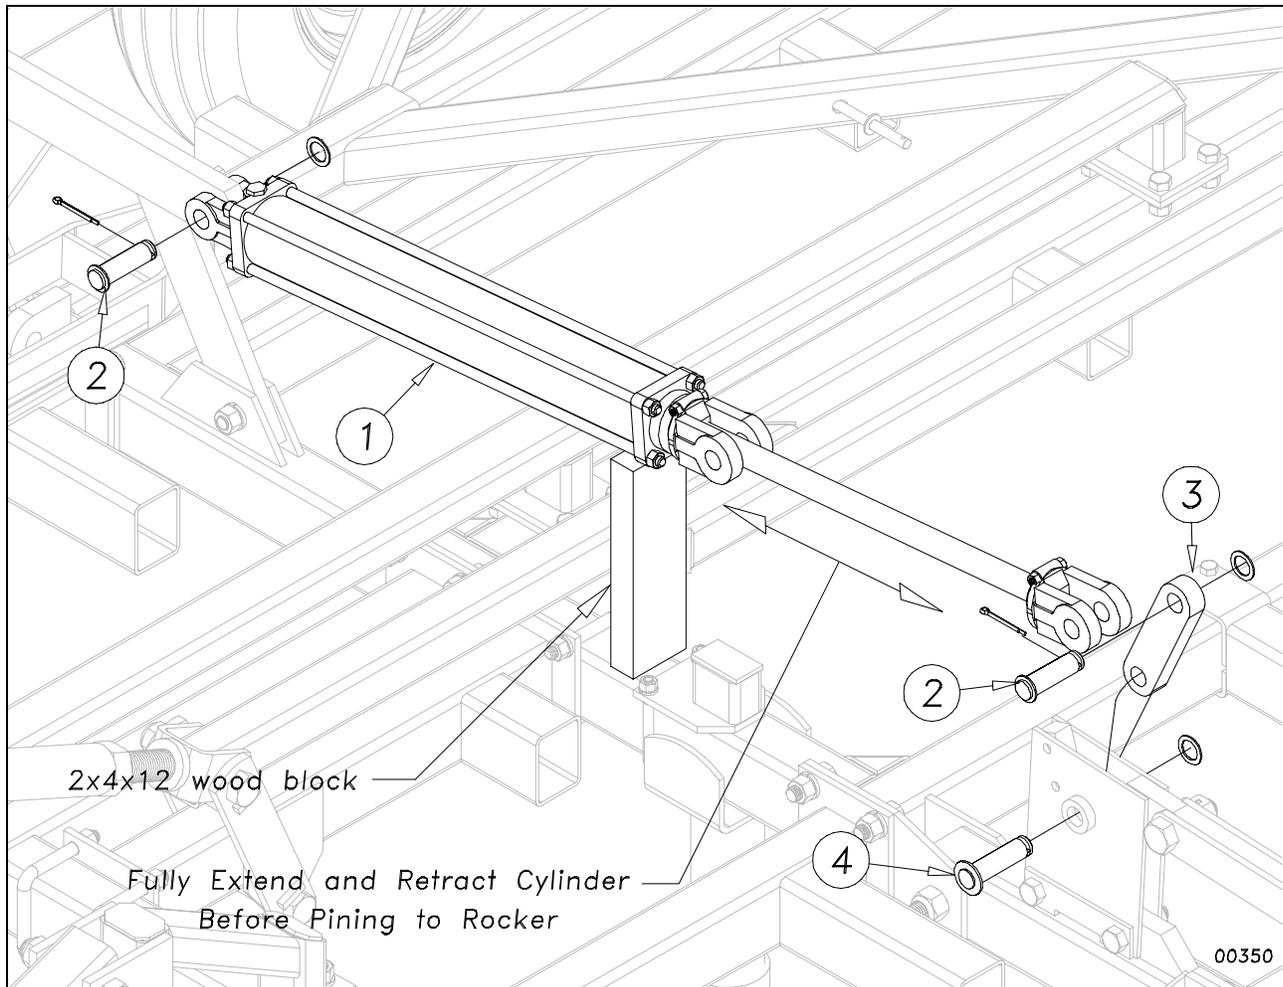

Figure 8
Connect the center fold cylinders (1) to the center fold bracket as shown in Figure 8. Use the 1" x 3 1/2 clevis pin (2) with 1" machine washer and 3/16 x 2 cotter pin. Attach the rocker (3) to rocker bracket with 1 x 3 3/8 usable Clevis Pin (4) using 1" machine washer and 3/16 x 2 cotter. **Do Not Connect Rod End Of Cylinders To Rockers Before They Are Charged With Oil.**